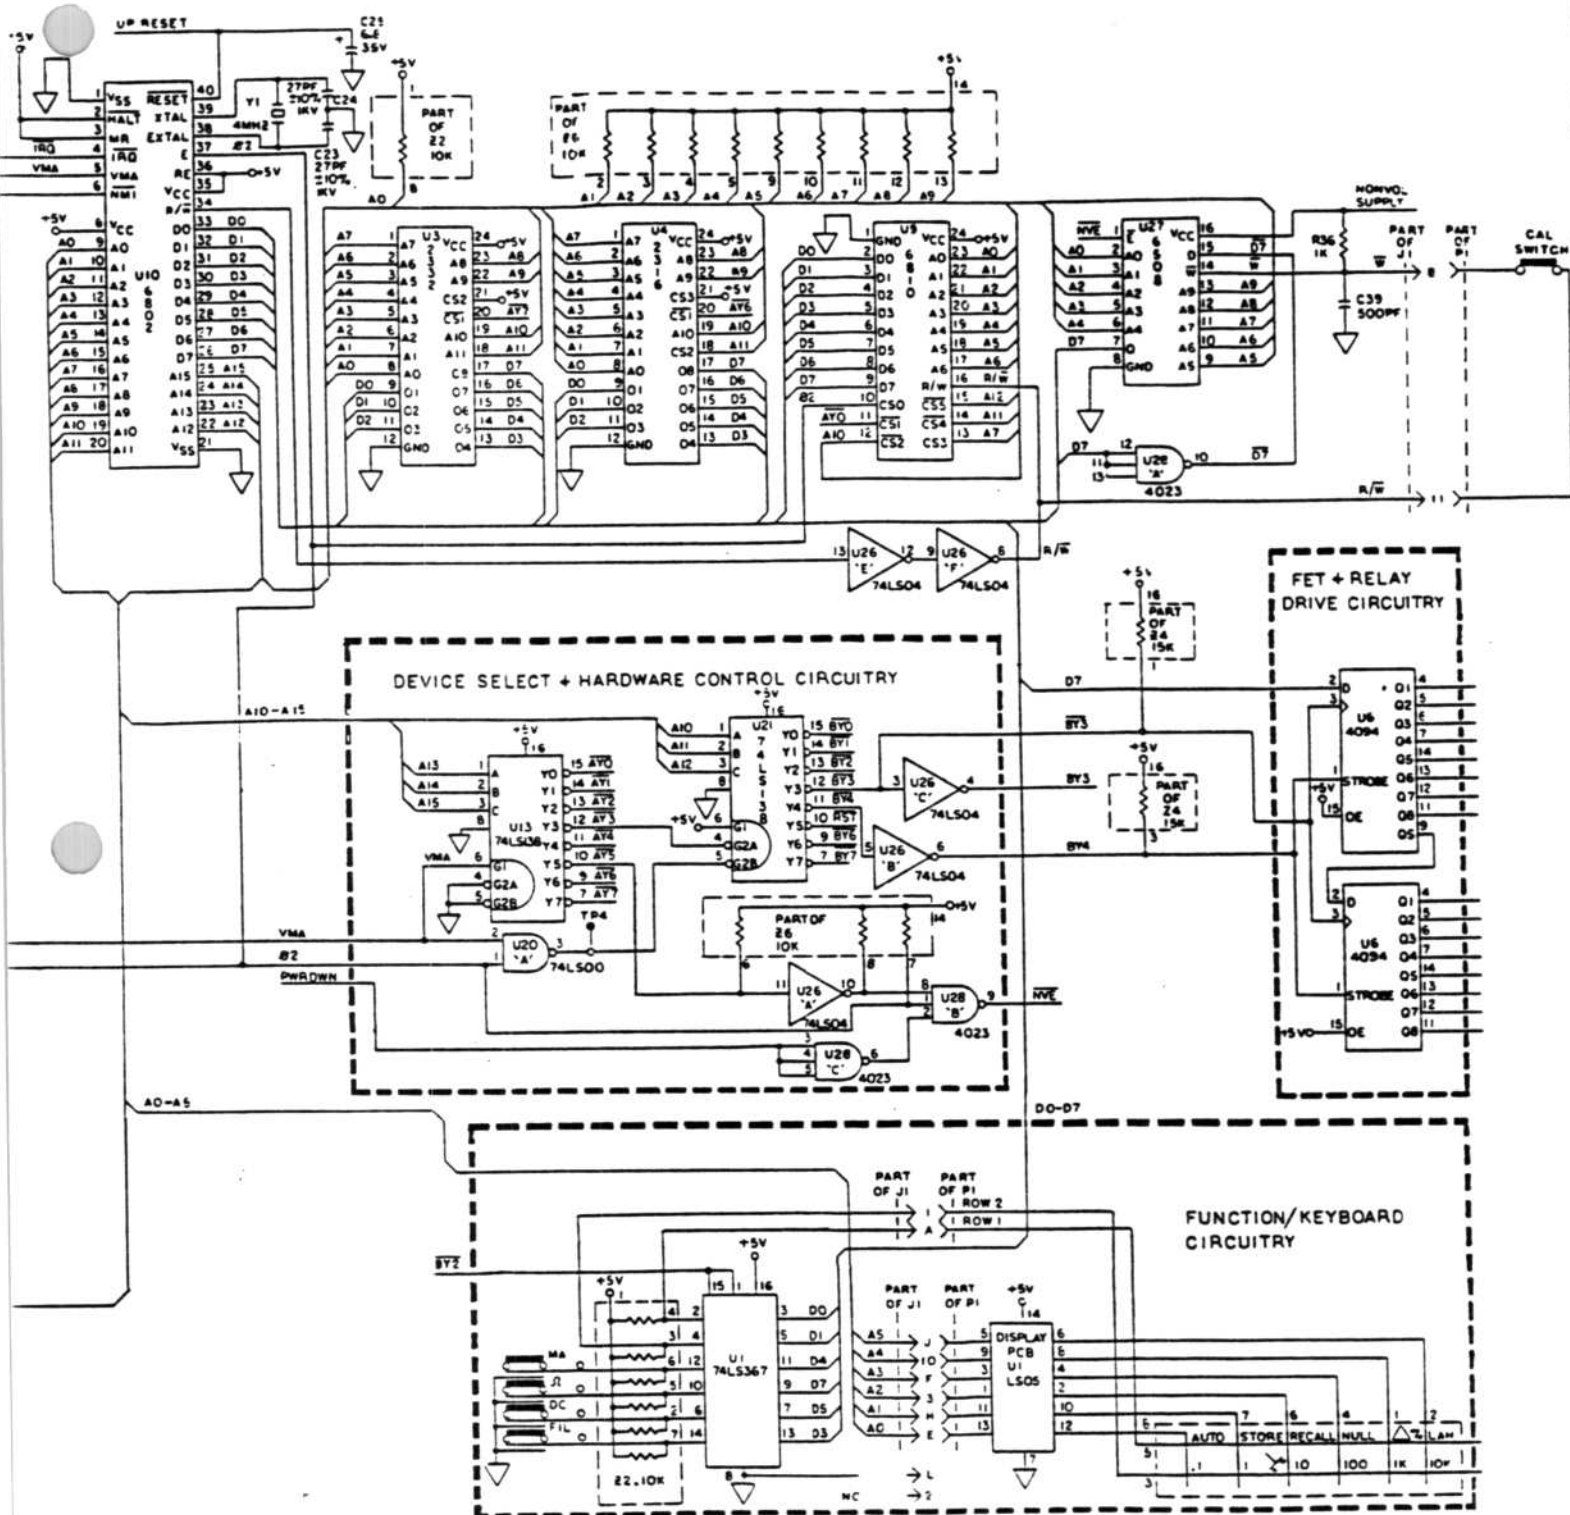

Figure 4.21 - 5001 Digital Block Diagram *continued*
4.5.1.1 Refer to foldout Figure 4.21. Central to the digital control of the 5001 is U10, a 6802 μ P, which along with its associated ROM and RAM devices, control and time all digital multi-meter operations. Digital control of the 5001 includes: